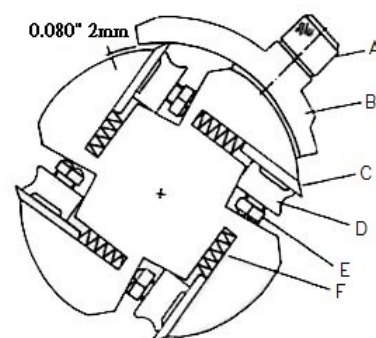

Fig. 10
3. To remove knives, loosen the knife gib (D), by turning the square head screw (E) into the knife gib (D) then remove the knife gib (D), knife (C) and two lifting springs (F) which located under the knife. Please take note that the springs may pop out while removing the knife. Fig. 10
7. Place the knife setting gage (B) over the knife. Loosen all square head screws by turning them into the knife gib until cutting edge of knife comes into contact with the protrusion of gage. Then lightly back out the square screws against the slot.